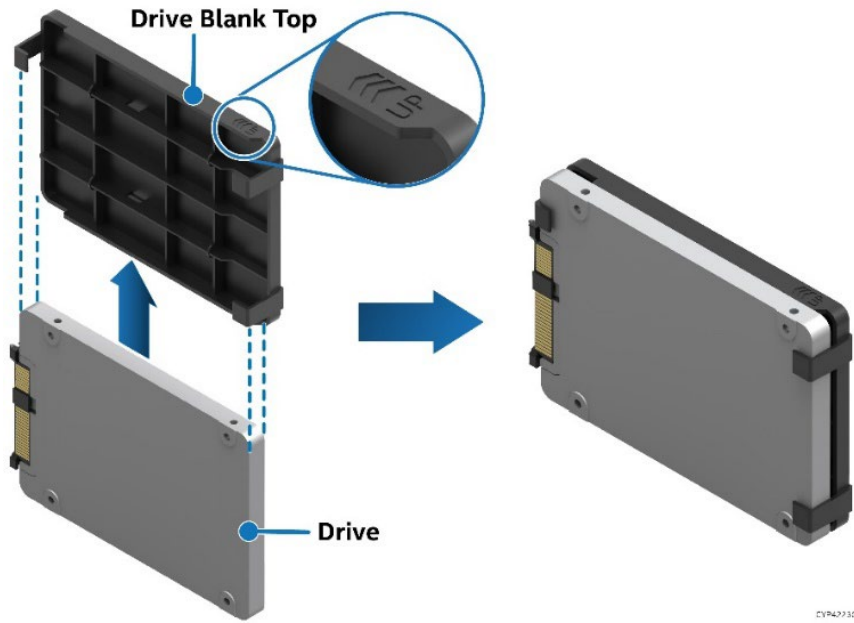

Figure 38. Attaching the Drive Blank to 7 mm SSD
- Slide the SSD drive into SSD mounting bracket. See Figure 38.